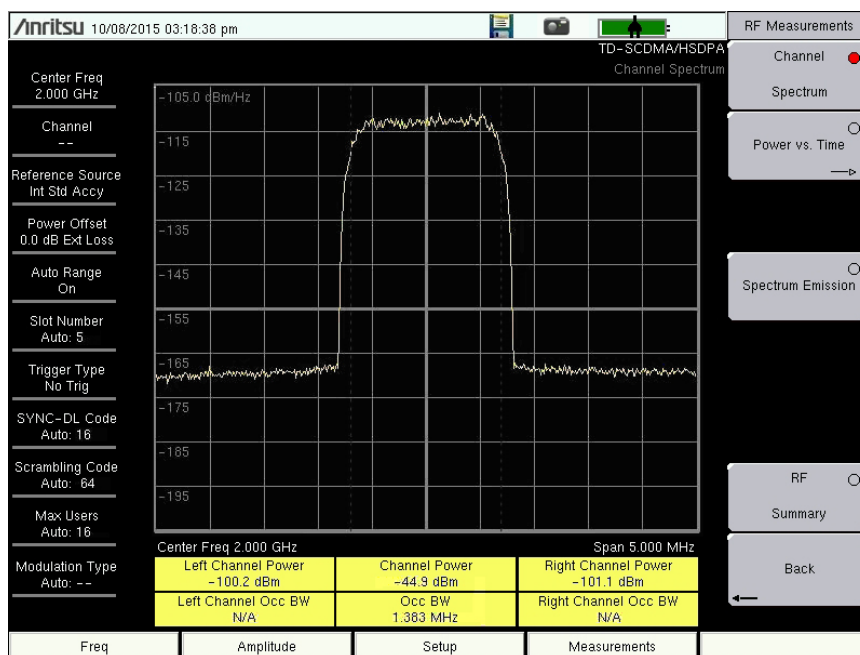

Figure 4-1. TD-SCDMA/HSPA+ Channel Spectrum
5. Press the **Channel Spectrum** submenu key to activate this RF measurement view (see Figure 4-1).